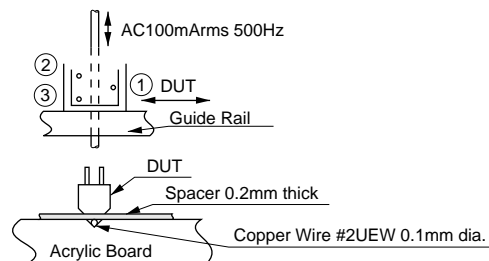

Fig.2 Test Fixture for Output Voltage Measurement
2. DUT is set in the test fixture as shown Fig.2.